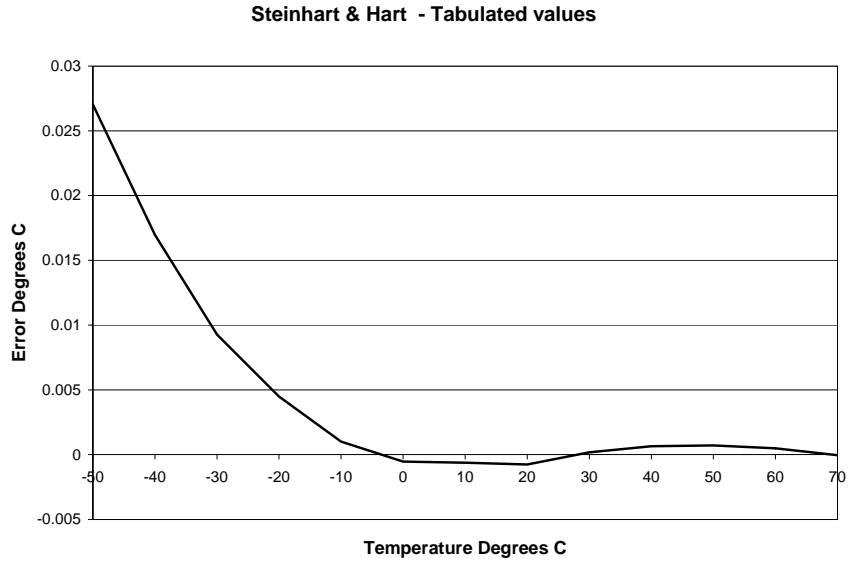
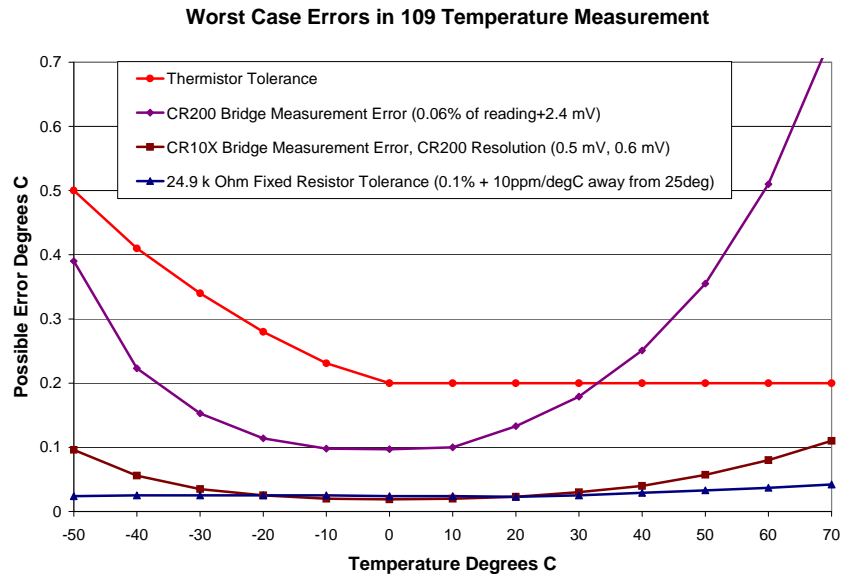

FIGURE 2-1. Steinhart and Hart
FIGURE 2-2. Possible Errors
The overall probe accuracy is a combination of the thermistor's interchangeability specification and the accuracy of the bridge resistor. The Steinhart and Hart equation used to calculate temperature has a negligible error (Figure 2-1). In a "worst case" the errors add to an accuracy of  $\pm 0.6^{\circ}\text{C}$  over the range of -50° to 70°C and  $\pm 0.25^{\circ}\text{C}$  over the range of -10°C to 70°C. The major error component is the interchangeability specification of the thermistor. The bridge resistor has a 0.1% tolerance with a 10 ppm temperature coefficient. Figure 2-2 shows the possible worst case probe and measurement errors. Note that at temperature extremes the possible error in the CR200(X) measurement may be greater than the error that may exist in the probe.